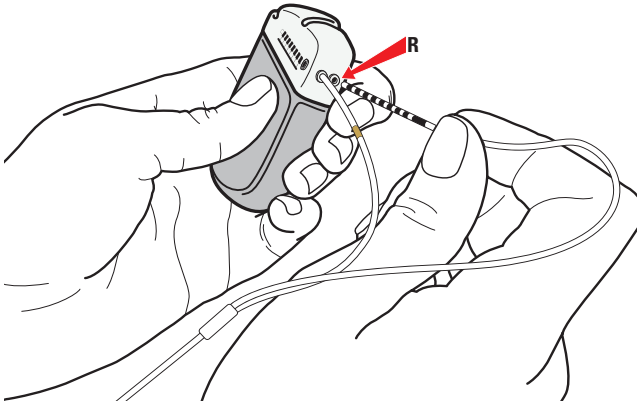

Figure 40. Connection to IPG Port R
2. Connect the right hemisphere Lead Extension tail with no marker band to Port R (or D) (Figure 40).